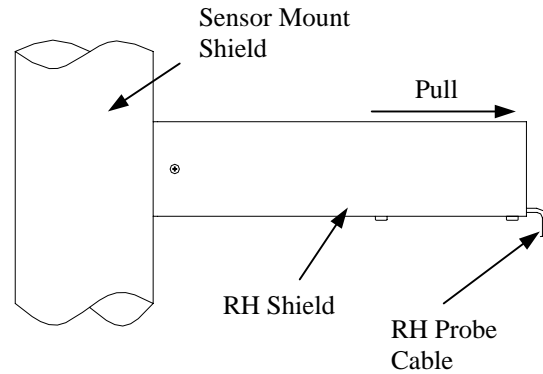

Figure 4
2. Remove the three screws that secure the RH Shield to the Sensor Mount Shield and gently pull the RH Shield off (See Figure 4).